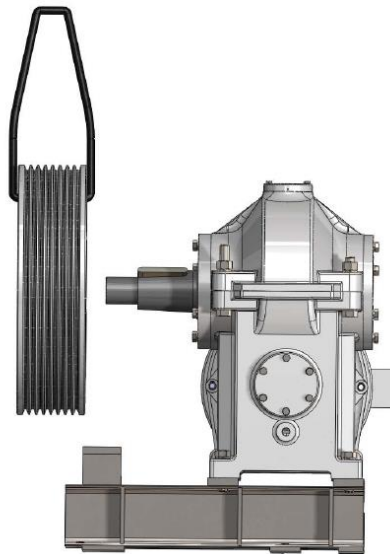

Figure 42 Sheave Removal
3. Attach hoisting equipment; hoist the sheave until pressure is applied to the rigging. See Figure 42.